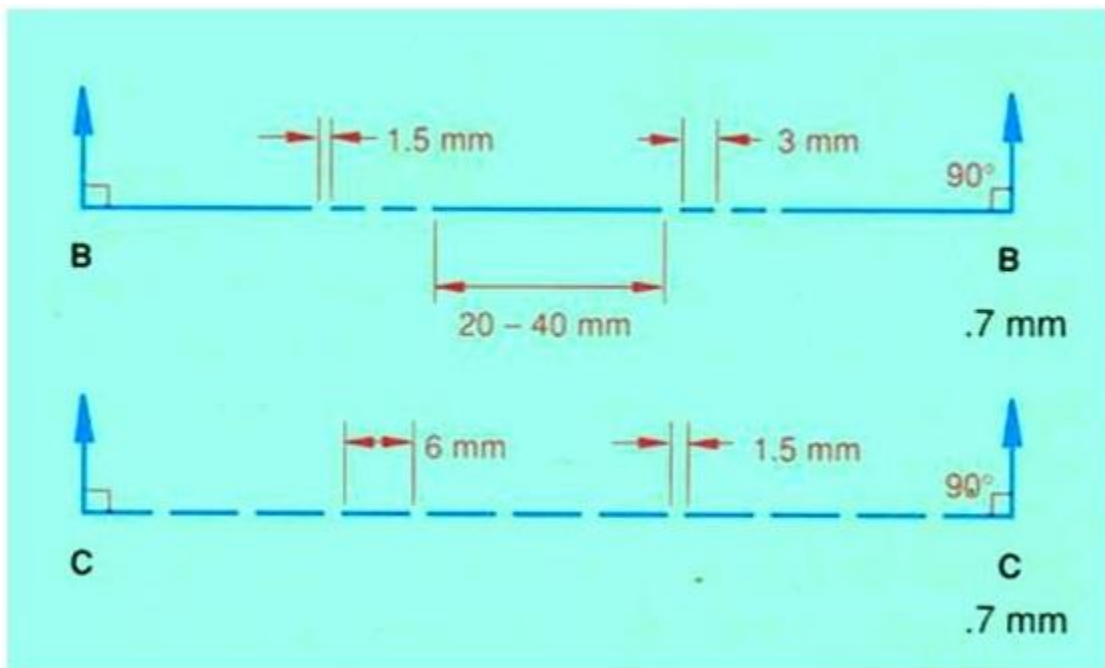

Figure 12 Normal representation of cutting plane lines.
- The normal representation of cutting plane lines are shown in figure 12. Line B-B is composed of alternating long and two short dashes, which is one of the two standard methods.